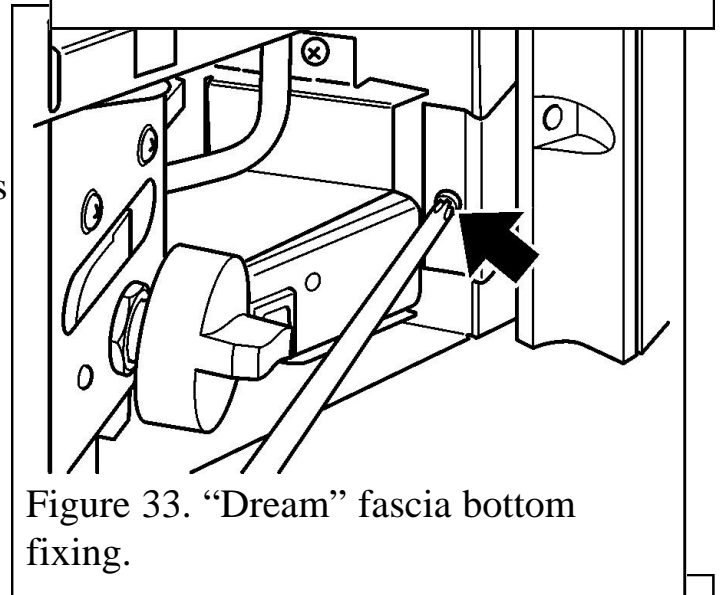

Figure 33. "Dream" fascia bottom fixing.
3. Align the bottom fixing holes with those in the convection box. Fix the bottom of the fascia to the convection box with two screws (See figure 33).